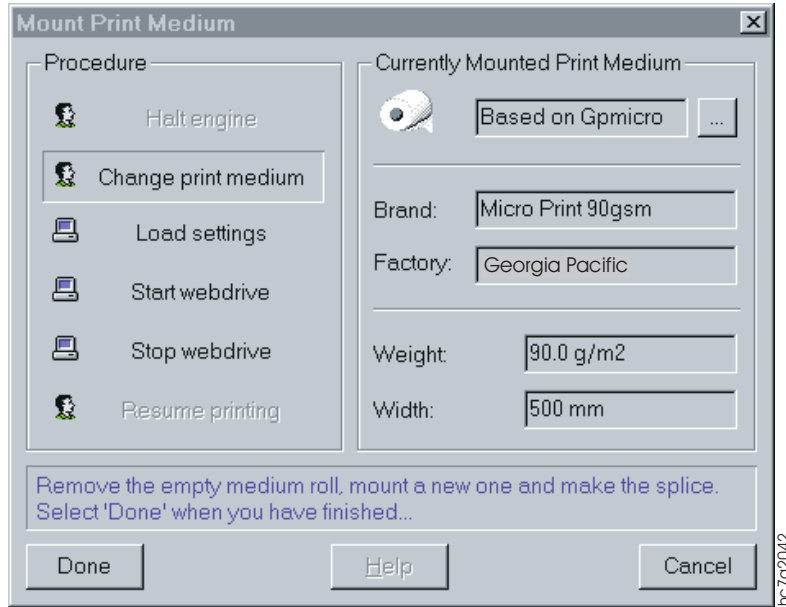

Figure 228. Mount Print Medium Window
1. Open the **Mount Print Medium** window, as shown in Figure 228 on page 266, by doing one of the following:
- If an alarm did not occur, first ensure that you have stopped the print engine (see “Interrupting the Printing Process” on page 196) and then open the **Mount Print Medium**, as shown in Figure 228 on page 266.